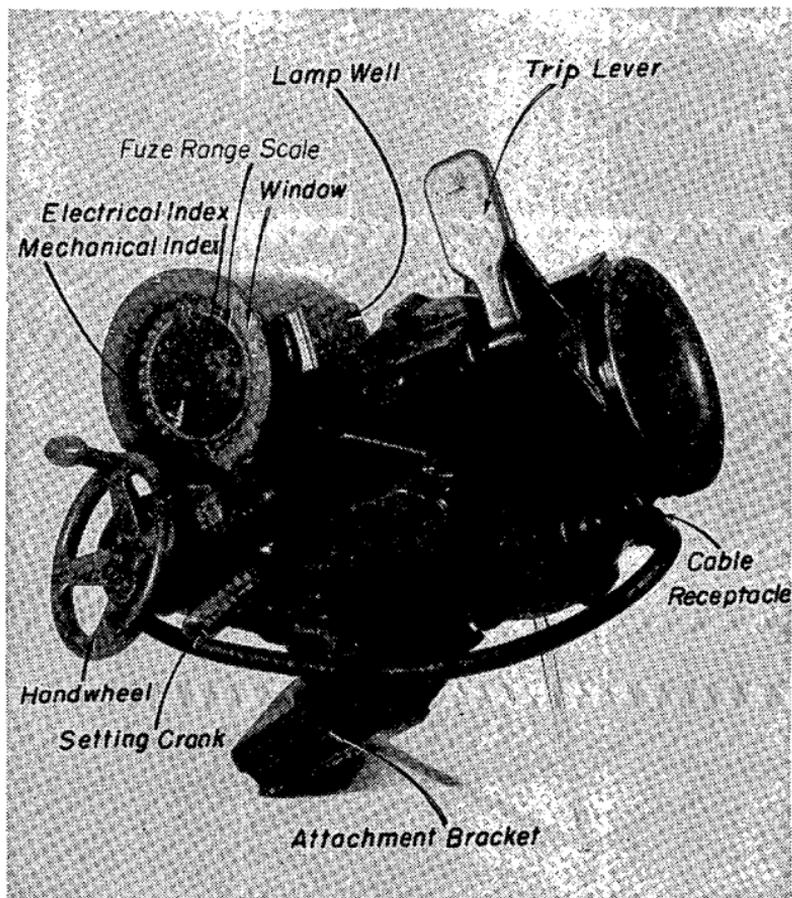
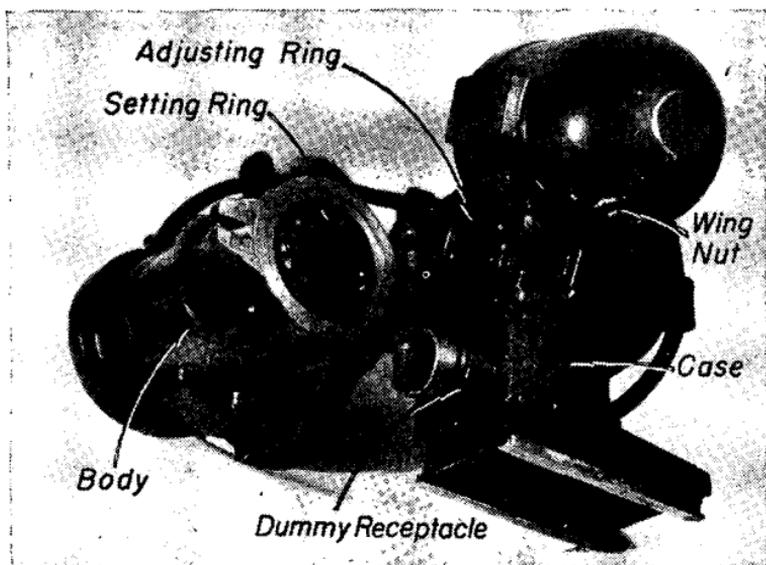

FIGURE 14.—M8 fuze setter.
FIGURE 15.—M8 fuze setter open for inspection.
■ 76. DESCRIPTION.—*a.* The fuze setter consists principally of the fuze indicator, the adjusting mechanism, and the setting mechanism. The indicator and adjusting mechanism are inclosed within the case (fig. 15) while the setting mechanism is housed within the body.
*b.* (1) The fuze indicator includes a fuze range scale, a mechanical (outer) index, an electrical (inner) index, and a standard a-c synchronous electrical unit.
(2) The electrical unit positions the electrical index at the position on the fuze range scale corresponding to the fuze setting transmitted from the director.
*c.* The adjusting mechanism is that mechanism which causes the fuze to be set at the particular fuze setting desired. A handwheel (fig. 14) is geared both to the mechanical index and to an adjusting ring (fig. 15) whose function is to engage and hold fast the lug or slot on the setting element of the fuze on the projectile. By turning the handwheel the mechanical index is made to indicate a particular fuze setting, and the adjusting ring is revolved to such a position that its pawls will stop the setting element on the fuze at the same fuze setting that is indicated by the mechanical index.
*d.* The setting mechanism, driven by the setting crank (fig. 14), contains a setting ring (fig. 15) which engages the lug or slot on the body of the fuze and turns the projectile until the fuze body is properly positioned with respect to the setting element of the fuze.
■ 79. TO CHANGE RINGS IN FUZE SETTER.—*a.* Open the fuze setter as shown in figure 15, remove the screws and the lock washers in each ring already assembled in the fuze setter, and remove this set of rings. If the rings stick in place in the fuze setter after the fastening screws have been removed, insert the screws into the tapped holes in the rings and pull the rings loose. Select from the accessory chest the proper set of rings to be used; then assemble the adjusting rings to the adapter in the case or lower portion of the fuze setter, and the setting ring to the socket in the body or upper portion.
*h.* Whenever the cable receptacle (fig. 14) is not connected to the gun junction box, it should be stowed on the dummy receptacle with the cable wrapped around in front of the fuze indicator.